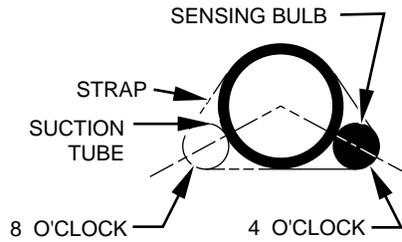

Fig. 2—Positioning of Sensing Bulb
8. Attach TXV bulb to horizontal section of suction line using clamps provided. (See Fig. 1C.) Insulate bulb with provided insulation tape (see Fig. 1E). See Fig. 2 for correct positioning of sensing bulb.
9. Reinstall TXV support clamp (removed in item 3).
10. Attach TXV bulb to vapor tube inside cabinet in same location as original was removed using supplied bulb clamps. Insulate bulb with provided insulation tape (see Fig. 1E). See Fig. 2 for correct positioning of sensing bulb.